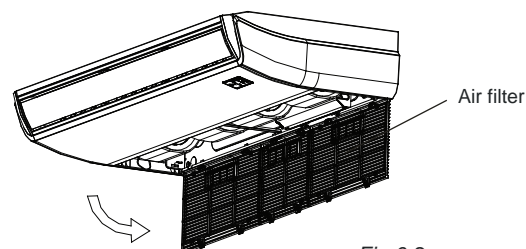

Fig.6-2
- Take out the air filter.(Refer to Fig.6-2)
- Re-install the air filter in the reverse order of Fig.6-2.